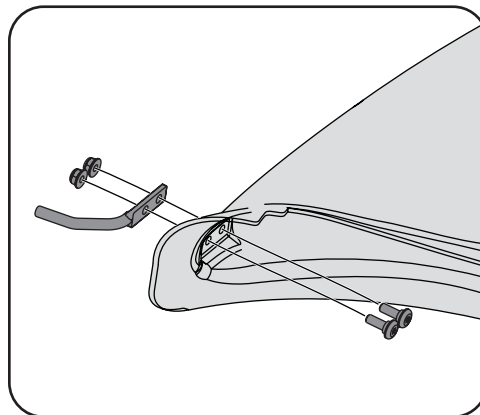

Figure 4-19
- Install the boot rod mount (747-06043) to the boot using 2 shoulder screws (738-1225) and 2 flangelock nuts (712-04064) from hardware pack 689-00636. Ensure that the shoulder screws (738-1225) are installed on the interior of the boot. See Figure 4-19.